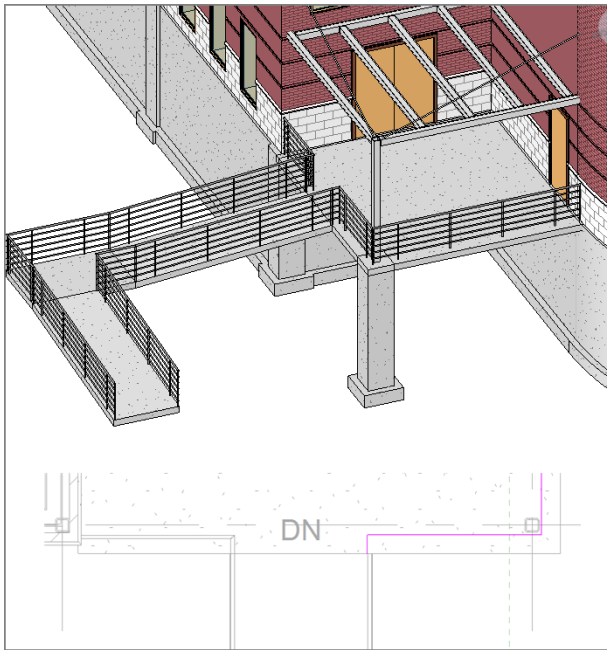

FIGURE 10.88: Adding the railing just as you've been doing this entire chapter
5. Draw a railing 8" (200mm) in from the slab edge, as shown in Figure 10.88.